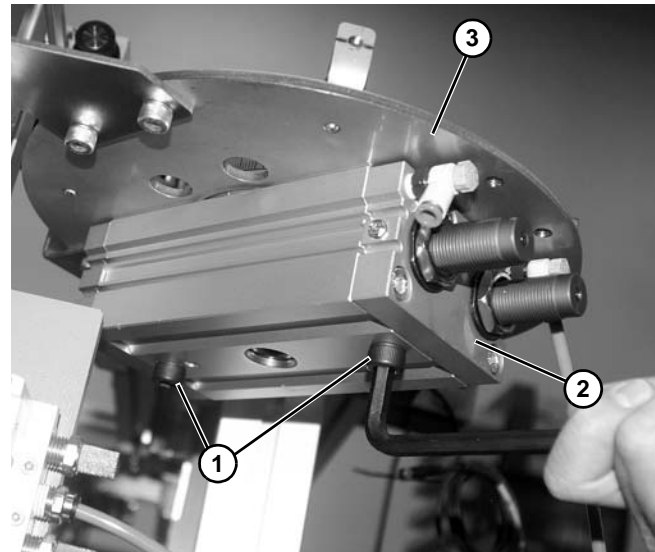

Figure 154
6. Remove two screws (Figure 154, item 1) securing cylinder (Figure 154, item 2) onto round plate (Figure 154, item 3).